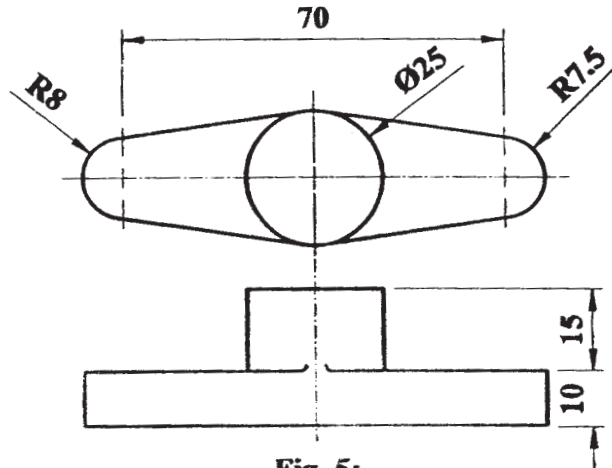

Fig. 5:
- Q5)** Design close die forging for the component shown in fig.5.